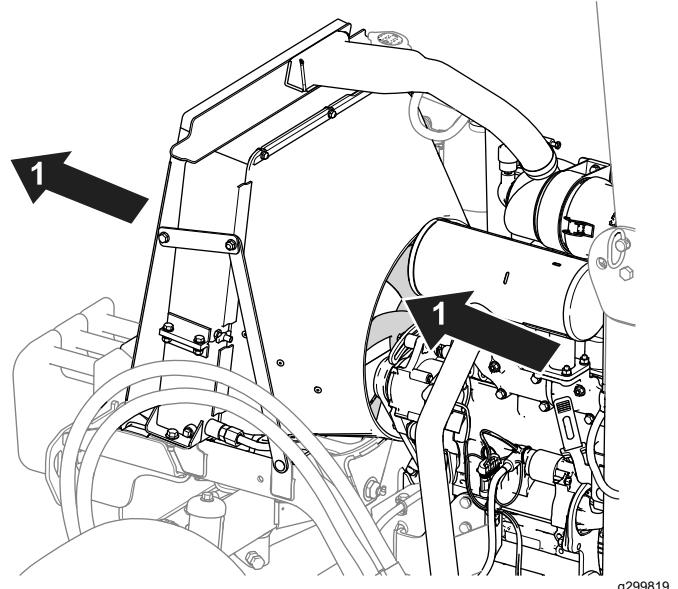

Figure 69
- Use compressed air to clean the radiator fins. Direct the air out from the machine (Figure 69).